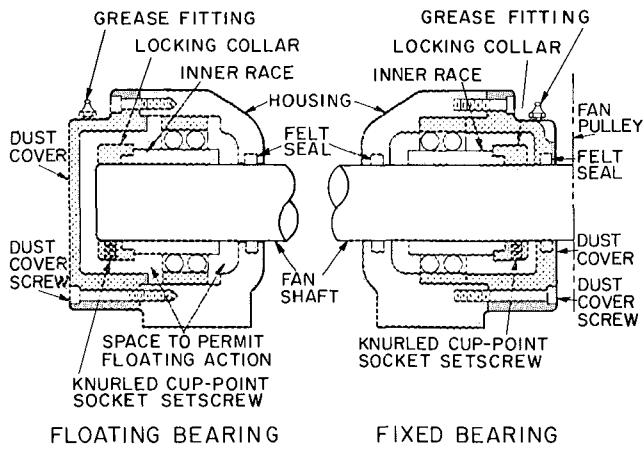

Fig. 5 – Fan Shaft Bearings
2. Loosen and remove dust cover screws. Remove dust cover (for fixed and floating bearing removal). Refer to Fig. 5.